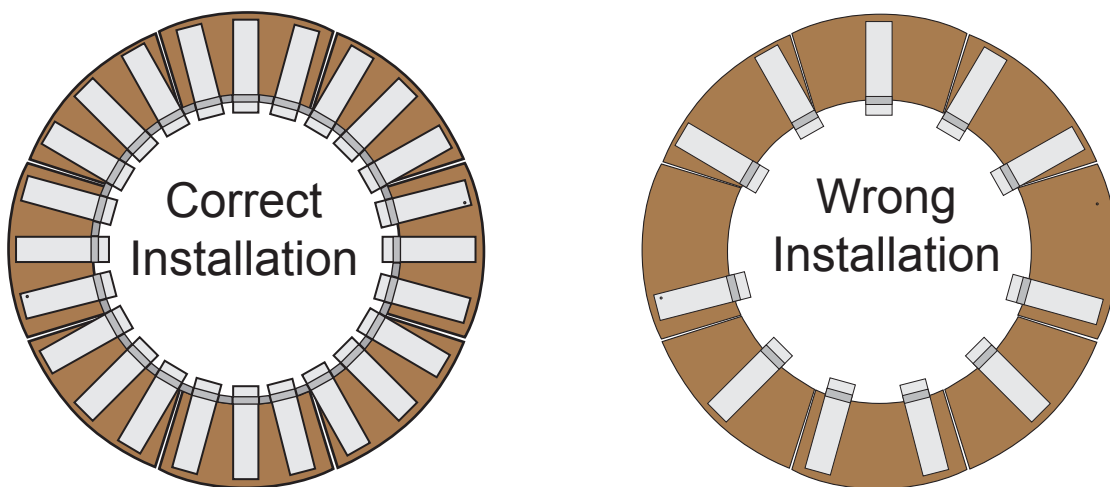

Fig. 5 Flexframe round installation
STEP 3: Form or lay the Flexframe inside the entire enclosure area. It is permissible to cut the Flexframe to fit your enclosure, however, it is not permissible to only use “just enough” pieces to support a pan (See Fig. 5 and Fig. 6 for examples).